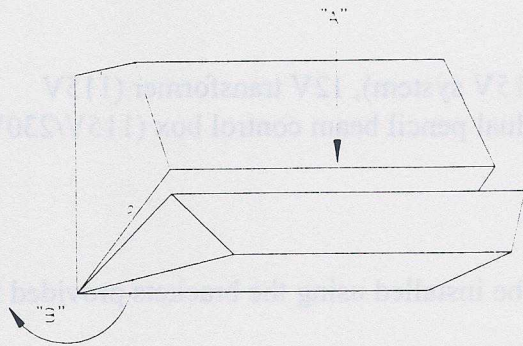

Figure 25: Removing the cover of the Dor-O-Matic Astro-Scan motion detector.
2. Remove the two (#6-32 FHMS) cover security screws and remove the snap-in cover as shown in Figure 25 by applying pressure at point A and pivoting the cover about axis B.